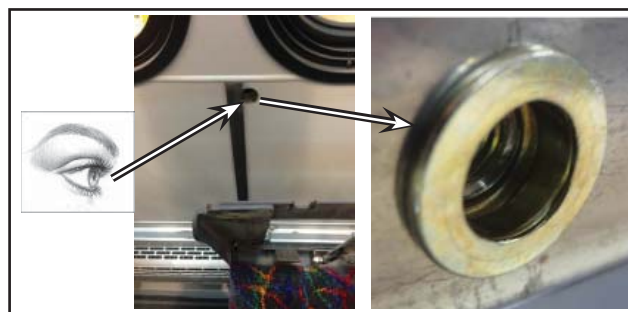

Figure 4 - Properly Installed Rivnut
- 1.6. Look through the hole in the wall. Inspect if the rivnut sits uniformly on the vehicle structure **AND** is not in contact with the structure welds. See Figure 4.